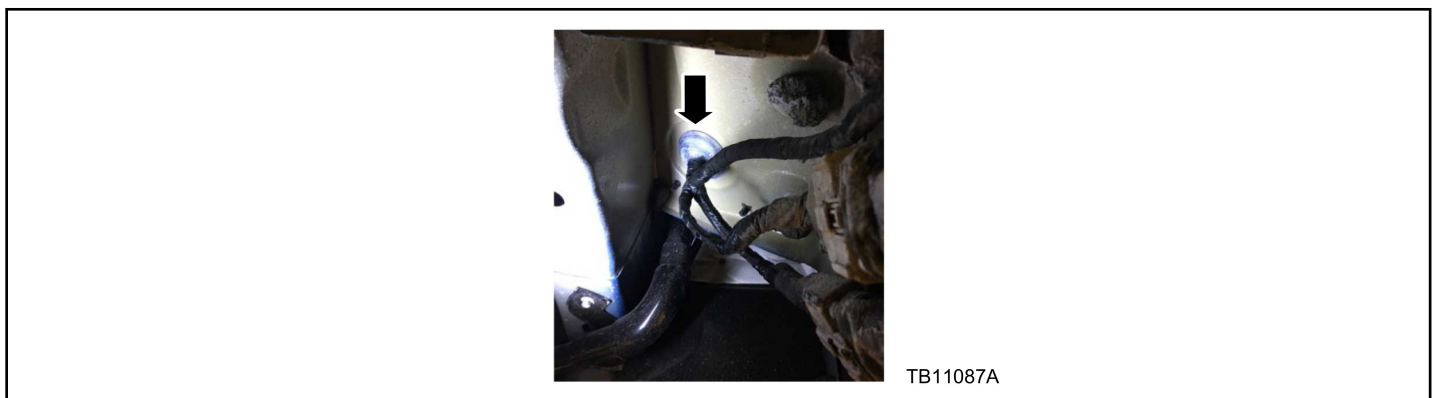

Figure 19 - Article 17-0044
17. Locate the wiring/grommet in the right rear floor area (Figure 19)